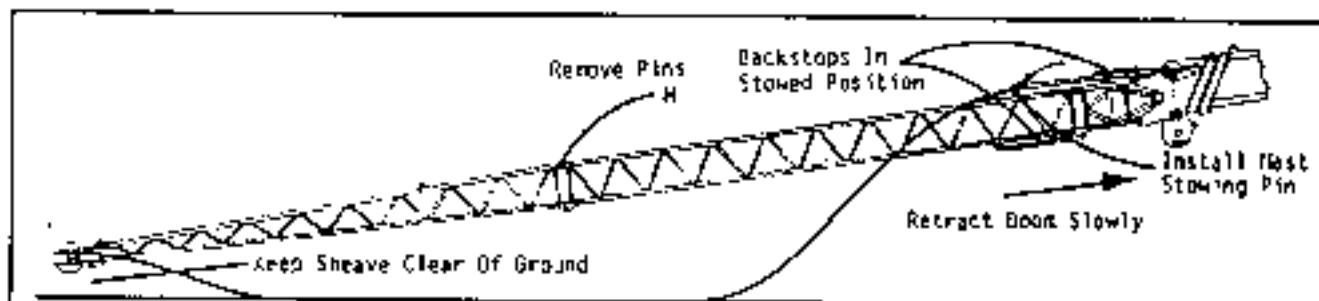

Fig. 4-30
- Step 6: Retract the boom tip section slowly until the jib mast rests on top the straight extension. Refer to Fig. 4-30.